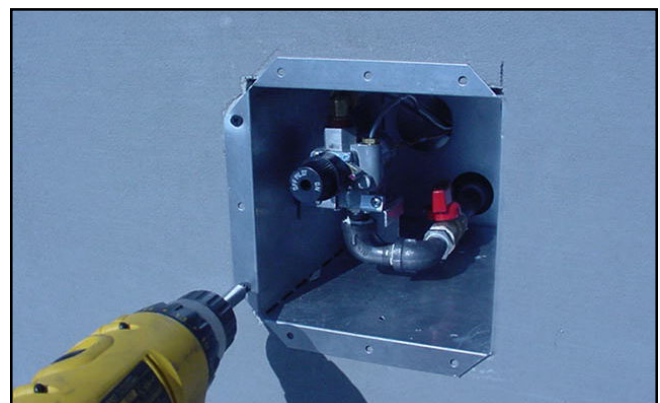

Figure 3 - Secure Valve Box to FPS
- 2) Secure the 3-sided valve box to the FPS enclosure with the drywall screws provided. See Figure 3.